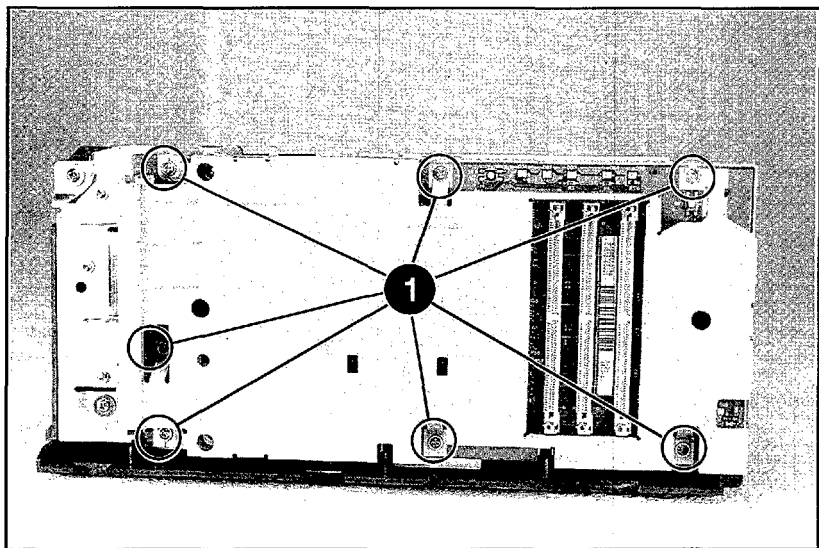

Figure 22 Removing the formatter screws.
- 2.** Remove the (7) screws shown in Figure 22.